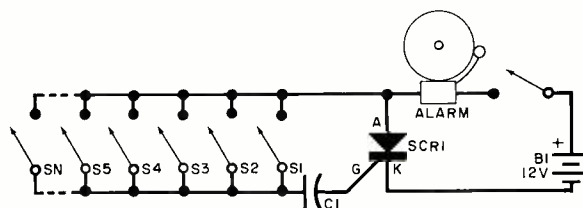

Fig. 7. Burglar alarm uses sensors in parallel.
Reader's Circuit. Guy Isabel (1725, Henri-Bourassa East Blvd., Apt. 25 Montreal, Quebec, H2C 1J5, Canada) uses the simple burglar alarm circuit shown in Fig. 7 in his own home. It includes a lantern battery, a spst power lock switch, an alarm device such as a heavy-duty bell, a medium-current silicon controlled rectifier, a capacitor and a group of normally open (NO) spst magnetic switches, S1 through S_N. The required capacitor value will vary somewhat with the gate sensitivity of the SCR used but, generally, will range from 0.05 μ F to about 0.5 μ F although a small electrolytic of 1 to 5 μ F may be needed in some installations. In practice, the magnetic switches are mounted to protect doors, windows and other access openings, arranged to close when the door or window is opened, and wired in parallel.